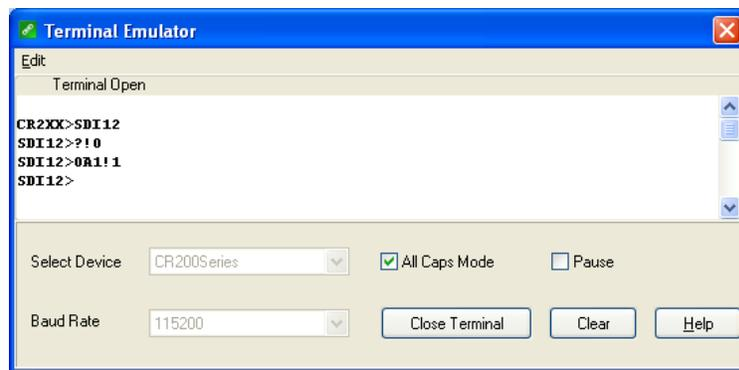

FIGURE D-1. CR200(X) example of using the SDI-12 transparent mode to change the SDI-12 address from 0 to 1
D.2.1 CR200(X) Series Datalogger Example
6. To change the SDI-12 address, key in **aAb!** <enter>, where *a* is the current address from the above step and *b* is the new address (see FIGURE D-1). The OBS501 will change its address and the datalogger will respond with the new address. To exit SDI-12 transparent mode select the **Close Terminal** button.